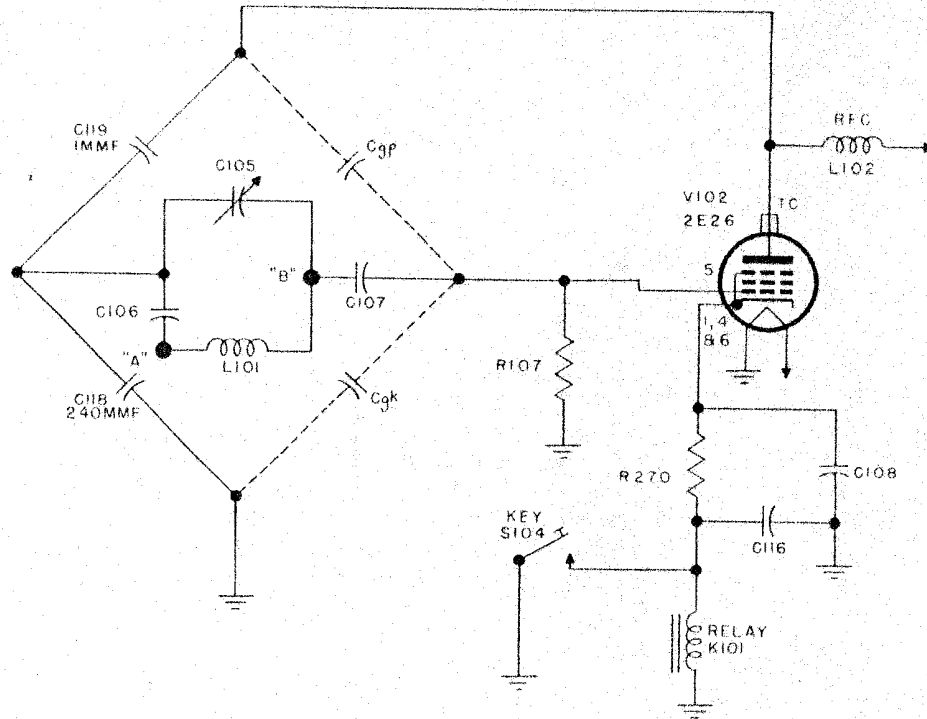

Figure 18. Transmitter RT-6A, neutralization circuit, simplified diagram.
f. Capacitors C118 and C119 are part of a grid neutralization network as shown in Figure 18. Cgp represents the grid to plate capacitance and Cgk the grid to cathode capacitance of V102. The "bridge" circuit is in balance when:
This condition is approximated by the values of C118 and C119. This circuit is effective in the reduction of parasitic oscillations originating in the grid circuit of the RF power amplifier, and it normally is not frequency selective. The oscillator plate voltage is applied to point "A." The plate of V101 connects to point "B" of Figure 18. Radio frequency choke L102, in the plate circuit of V102 is a parasitic suppressor. Regenerative feedback is further reduced by the use of a shielded lead from the REC ANT terminal on J103 to the relay K101. This shielded lead also prevents some of the transmitter noise from entering the receiver during break-in operation.